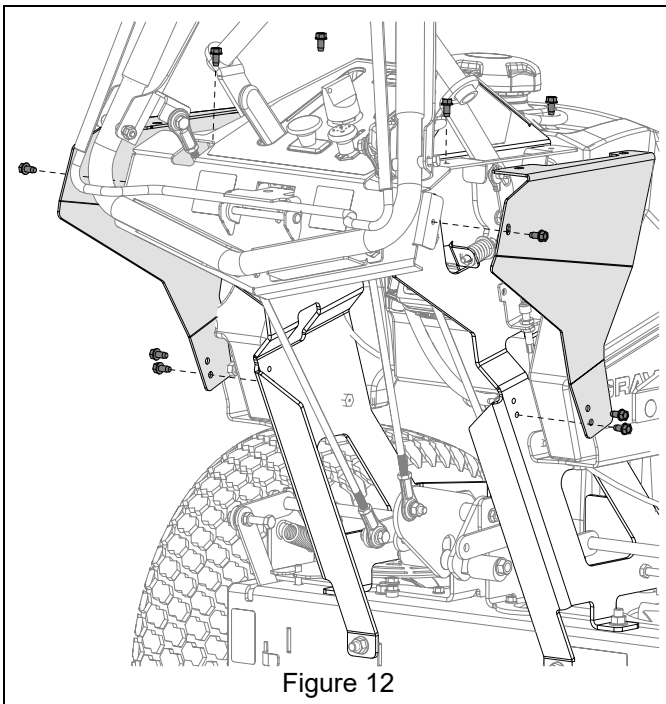

Figure 12
7. Reinstall left and right side covers and retain with ten tapping screws. See Figure 12.